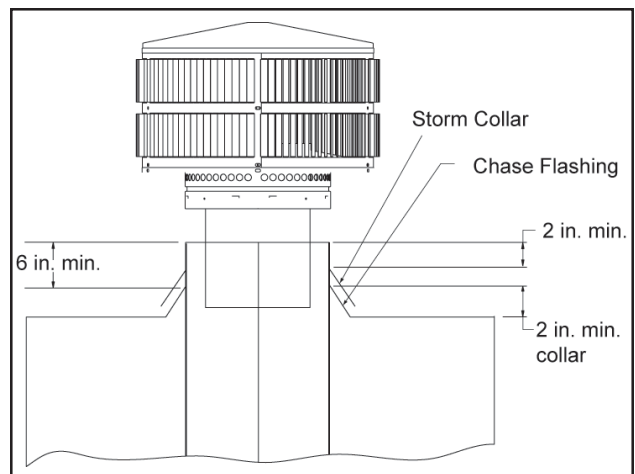

Figure 17 - Installing a TR344 Round Termination Cap
- a. Install the chimney sections up through the ceiling/roof. When using the TR344 round termination cap, the uppermost section of pipe must extend 6 in. above the roof to allow installation of the storm collar and termination cap. See Figure 17.